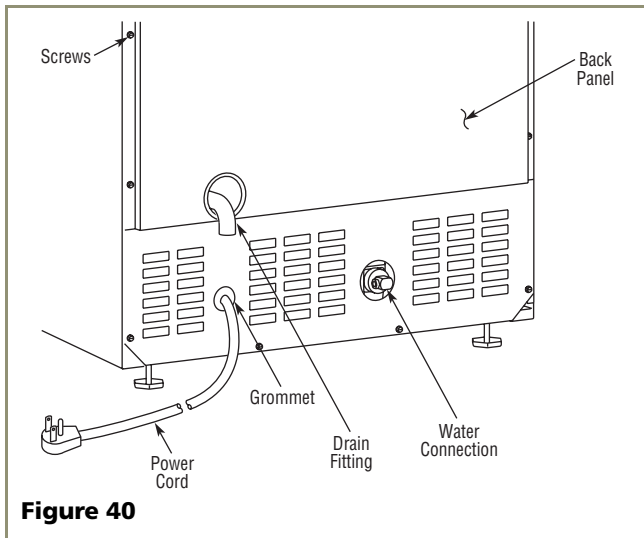

Figure 40
- Carefully push the power cord grommet through the hole in the back panel (see **Figure 40**, CLRCO2175 shown).